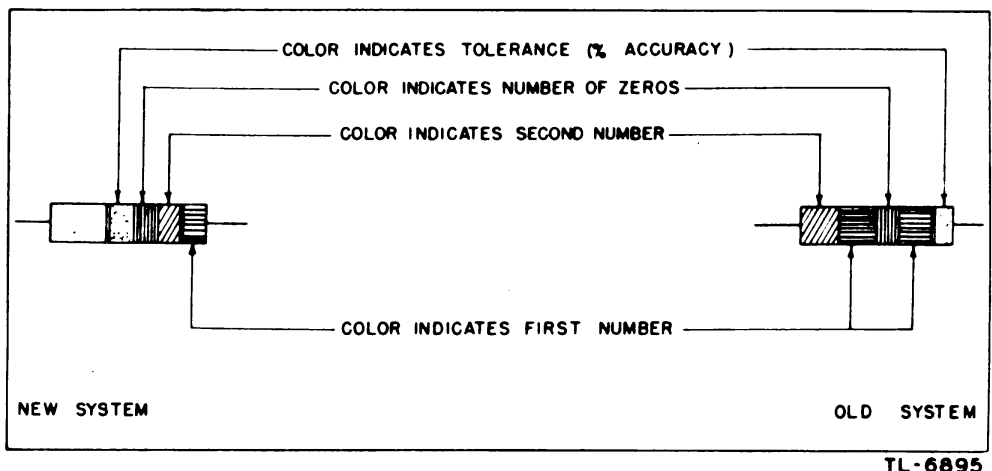

FIG. 38. RESISTOR COLOR-CODE CHART
EXAMPLE: A 50,000-ohm resistor of standard tolerance is indicated by a green ring (5), a black ring (0) and an orange ring (000), as shown in the new system of marking in figure 38. In the old system of marking, at the right of figure 38, the resistor would be painted green (5), with a black end (0) and an orange dot or ring in the center (000).